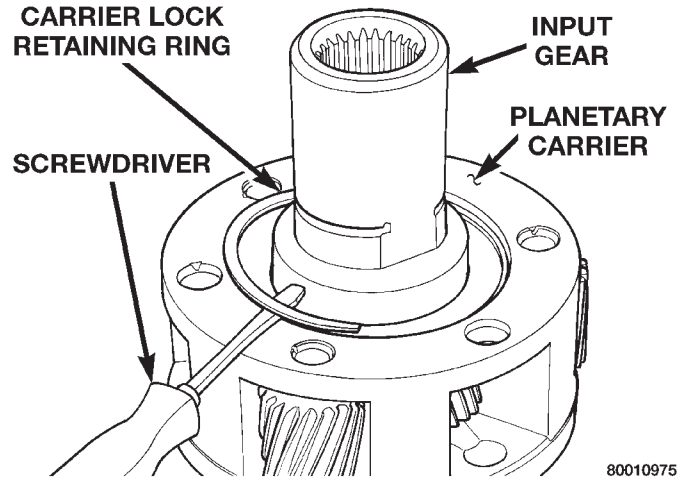

Fig. 35 Input Gear Snap-Ring Removal
(1) Remove snap-ring that retains input gear in low range gear (Fig. 35).